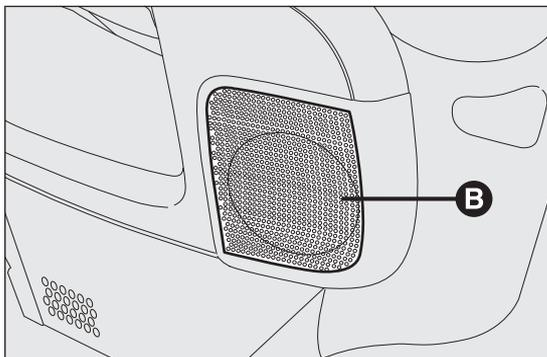

fig. 140
- 2 mid-woofers B located in the front doors (165 mm diameter, 40 W max power each) fig. 140;